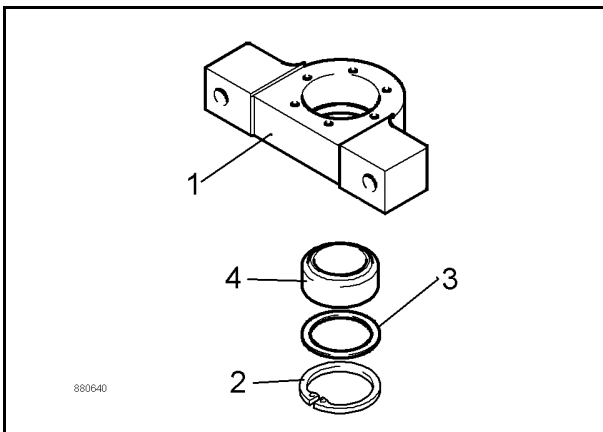

Fig. 5
6. Remove circlip 2 (Fig. 5) and backing disc (3).
7. Knock the rocker bearing (4) out of the bearing block (1).